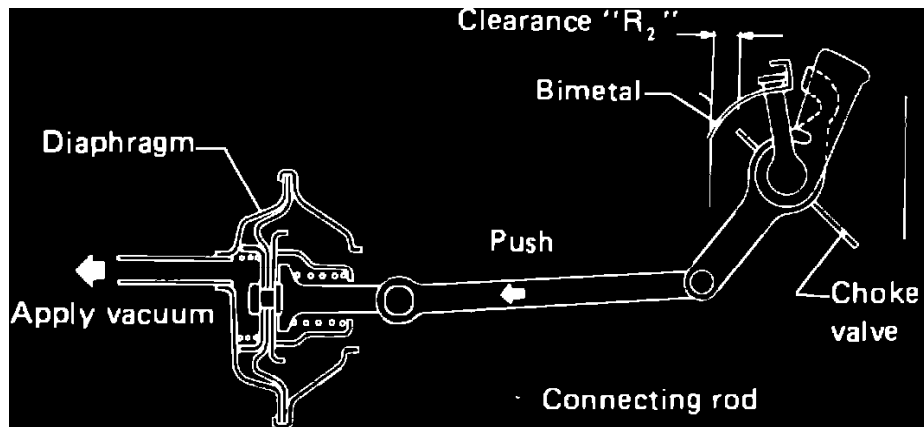

Fig. 13 Vacuum break adjustment, above 68F ambient temperature.
3. With ambient temperature above 68°F, measure clearance R2, Fig. 13, with connecting rod pushed and adjust to specifications.